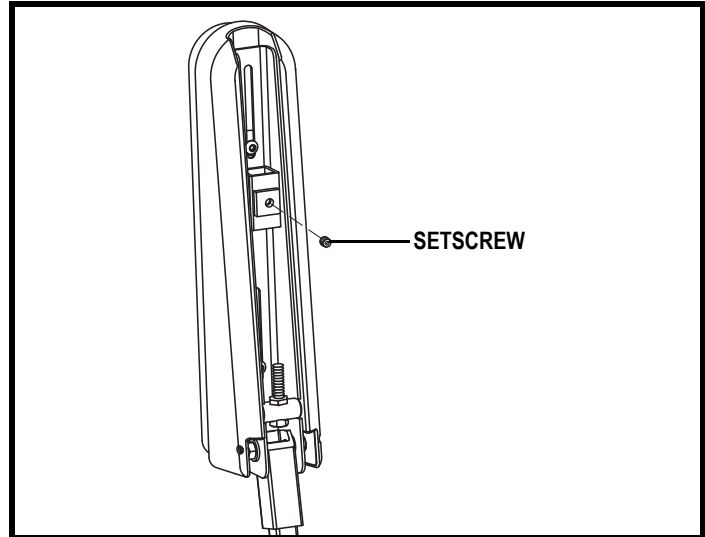

Figure 19. Underside of Armrest
2. Loosen the setscrew on the controller bracket. See **figure 19**.
5. Flip up the armrest and loosen the setscrew. See **figure 19**.